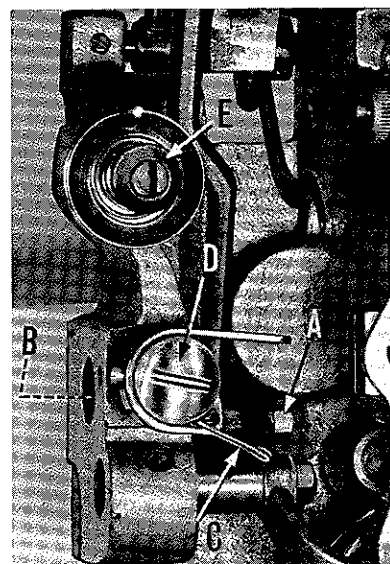

Fig. 17
If the hook is not catching the needle thread as a result of the needle not throwing up a large enough loop, then the needle carrier should be adjusted. To make this adjustment, turn handwheel in operating direction until the needle carrier is in its most forward position, and, with a wrench, loosen nut (A, Fig. 17) and turn needle carrier driving stud in the required direction. Access to this stud is through the hole in the head casting (B). If the hook is still not catching the needle thread, re-time the hook as previously instructed.